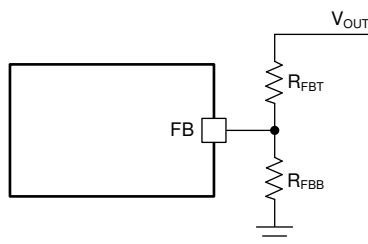

**Figure 8-1. SW Node and Inductor Current Waveforms in Continuous Conduction Mode (CCM)**
The following operation description of the LV3842 will refer to the Section 8.2 and to the waveforms in Figure 8-1. LV3842 is a step-down synchronous buck regulator with integrated high-side (HS) and low-side (LS) switches (synchronous rectifier). The LV3842 supplies a regulated output voltage by turning on the HS and LS NMOS switches with controlled duty cycle. During high-side switch ON time, the SW pin voltage swings up to approximately  $V_{IN}$ , and the inductor current  $i_L$  increases with linear slope  $(V_{IN} - V_{OUT}) / L$ . When the HS switch is turned off by the control logic, the LS switch is turned on after an anti-shoot-through dead time. Inductor current discharges through the low-side switch with a slope of  $-V_{OUT} / L$ . The control parameter of a buck converter is defined as Duty Cycle  $D = t_{ON} / T_{SW}$ , where  $t_{ON}$  is the high-side switch ON time and  $T_{SW}$  is the switching period. The regulator control loop maintains a constant output voltage by adjusting the duty cycle  $D$ . In an idea Buck converter, where losses are ignored,  $D$  is proportional to the output voltage and inversely proportional to the input voltage:  $D = V_{OUT} / V_{IN}$ .